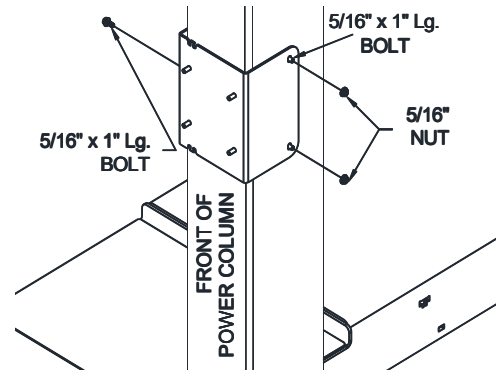

Fig 15a – Power Unit Bracket
- 34) **POWER COLUMN ONLY** – To install the Power unit, slide the Power Unit Bracket in place. On the open side of the column screw in the 5/16" x 1" flange head bolt, see Fig 15a. Using the nuts at the top of the column to lower the lock ladder until it contacts the top of the column baseplate. Now look inside the column, the 2 upper holes for the power unit should be visible through the lock ladder window. Insert two 5/16" x 1" flange head bolts from the inside out and screw on the two 5/16 nuts. **Note:** The bracket may need to be pivoted to align the bracket holes with the column holes.